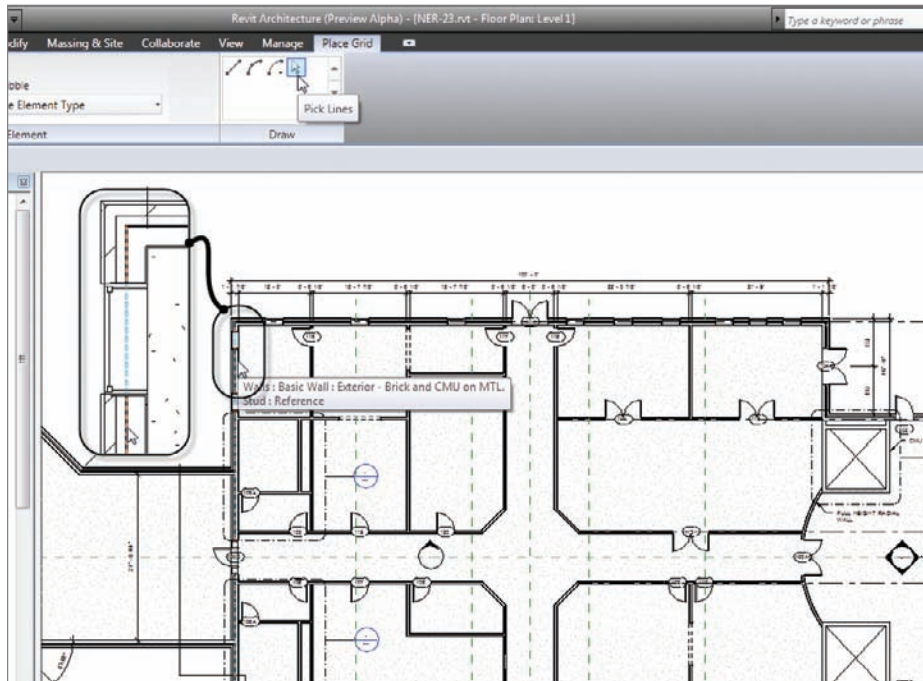

FIGURE 8.14 Adding the first vertical grid by picking the core center line of the exterior wall
1. Zoom out so you can see the entire east wing, as shown in Figure 8.14.
3. On the Draw panel of the Modify | Place Grid tab, click the Pick Lines icon, as shown in Figure 8.14.
4. Pick the core centerline of the west exterior wall of the east wing, as shown in Figure 8.14.